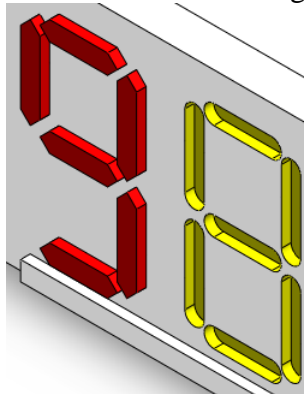

Fig. 4 Convex (left) and concave (right) features.
d. Make the 1st and 3rd digits convex and the 2nd and 4th digits concave (Fig. 4).